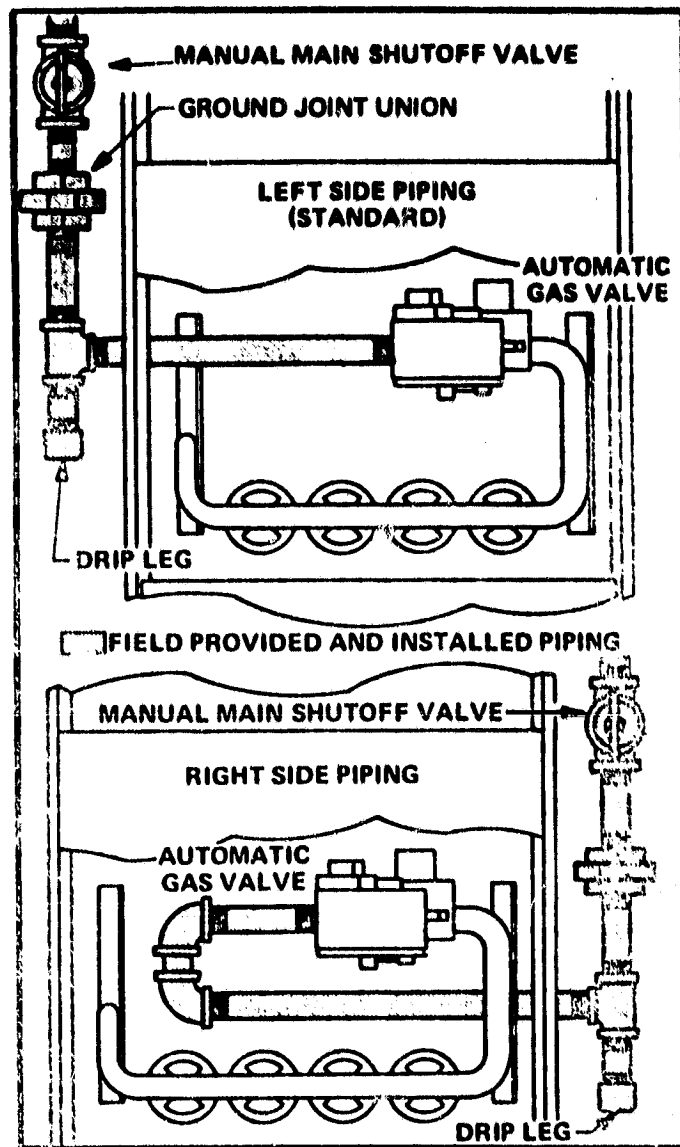

FIGURE 4
- 1 - This unit is shipped standard for the piping to be installed through the left side of the unit. See Figure 4. All that is necessary for the installer to do is connect gas supply to the piping assembly.
- 2 - If it is necessary to bring piping through the right side of the unit, a piping hole is furnished on the right side. See Figure 4 for connection.
- 3 - When connecting the gas supply, the length of run from the meter must be considered in determining the pipe size so as to avoid excessive pressure drop. For correct sizing of gas delivering piping consult booklet "Specifications for Installations of Gas Piping and Gas Appliances" issued by the utility having jurisdiction. A drip leg should be installed in the vertical pipe run to the unit. See Figure 4.